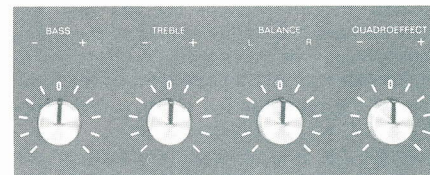

Fig. 11
Speakers for four-channel reproduction are set up as shown in Fig. 11 a. The front pair of speakers should be connected to the FRONT jacks and the rear speakers to the REAR jacks. Right (R) and left (L) are as seen by the listener.